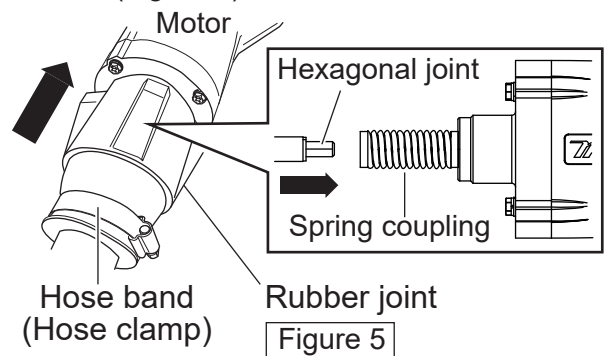

Figure 5
3. Install the hexagonal joint to the spring coupling, then install the rubber joint to the motor. (Figure 5)